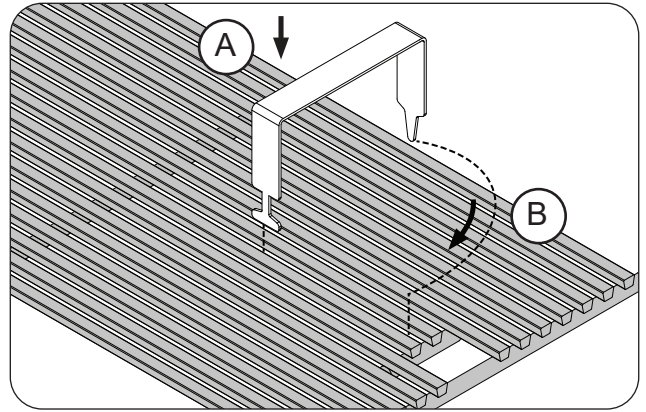

Fig. 13-1 Grid lifter
1. With the prongs facing downward, insert the notched-end of the lifter between two grid rods, then rotate, as shown in Fig. 13-1, A & B.
2. Insert the rear pointed-end of the lifter between the same two rods (Fig. 13-1, B) and carefully lift the cooking grid and place onto the front and rear grid rests of the grill (see Fig. 13-2). Repeat for all other cooking grids.